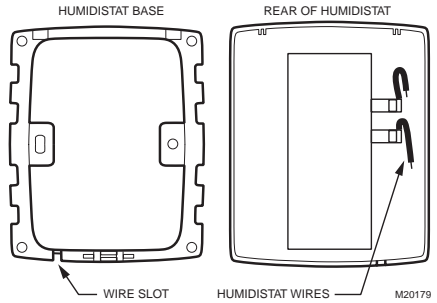

Fig. 14. Humidistat base and rear view.
- Connect the low-voltage wires to the leads and replace the H8908 case. See Fig. 14.